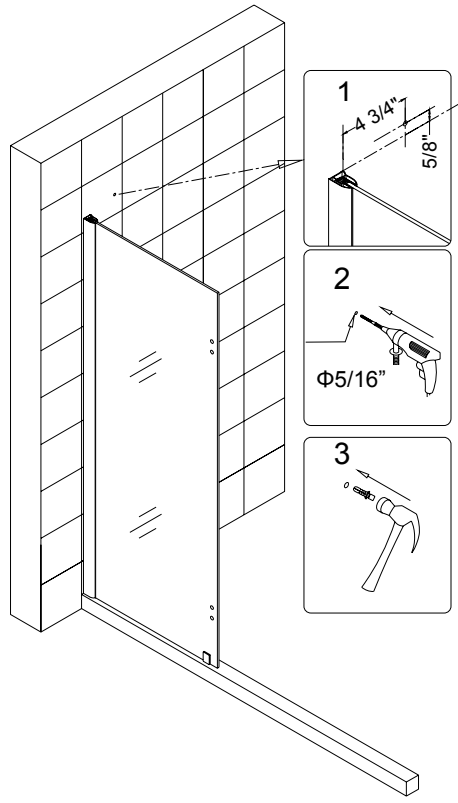

Fig 4
4. Locate the **Support bar (03)** from the package. Drill the hole on the wall according to the measurements given in Fig.4. Insert the **wall anchor (07)**.